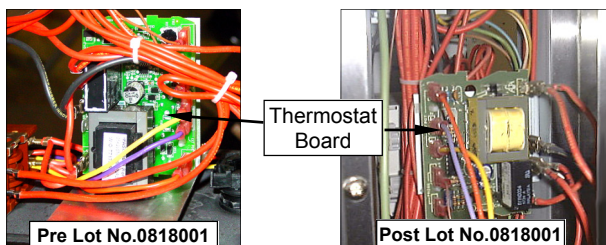

Figure 6.3.8
- 4) With control panel open (6.2.1) remove wires from thermostat board (2 fine brown wires at bottom left of board - refer figure 6.3.8).